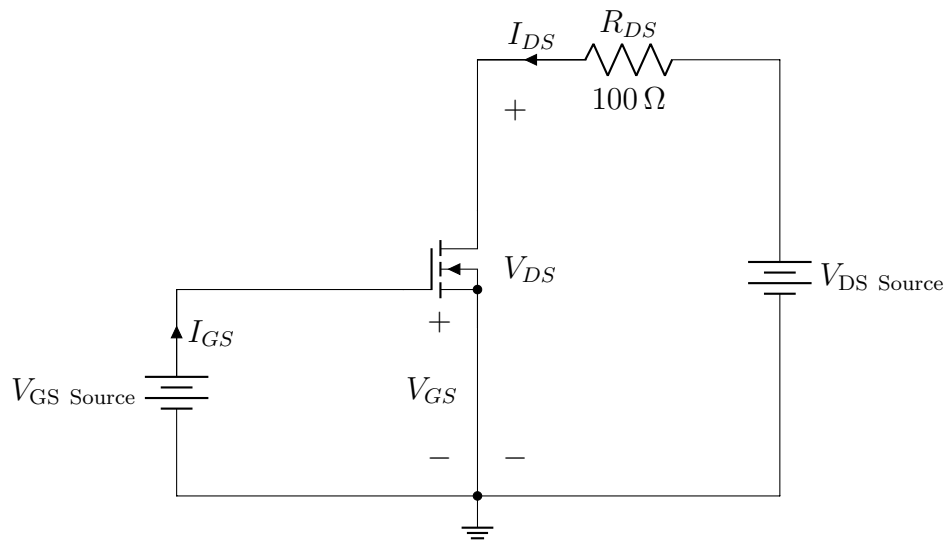

Figure 2: Circuit Used to Characterize an NMOSFET
1. Construct the circuit shown in Fig. 2 on a breadboard.